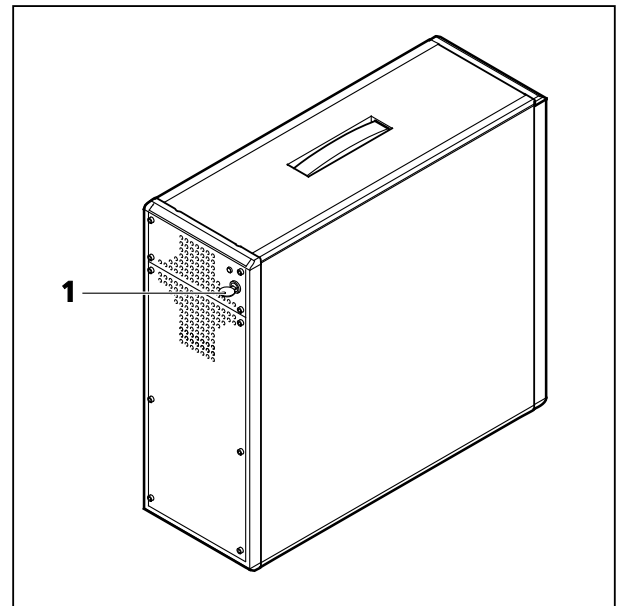

Fig. 2 Laser module (front)
- Turn the key (Fig. 2/1) on the front side of the laser module to switch on the lasers. A yellow LED will indicate that the lasers are operational.